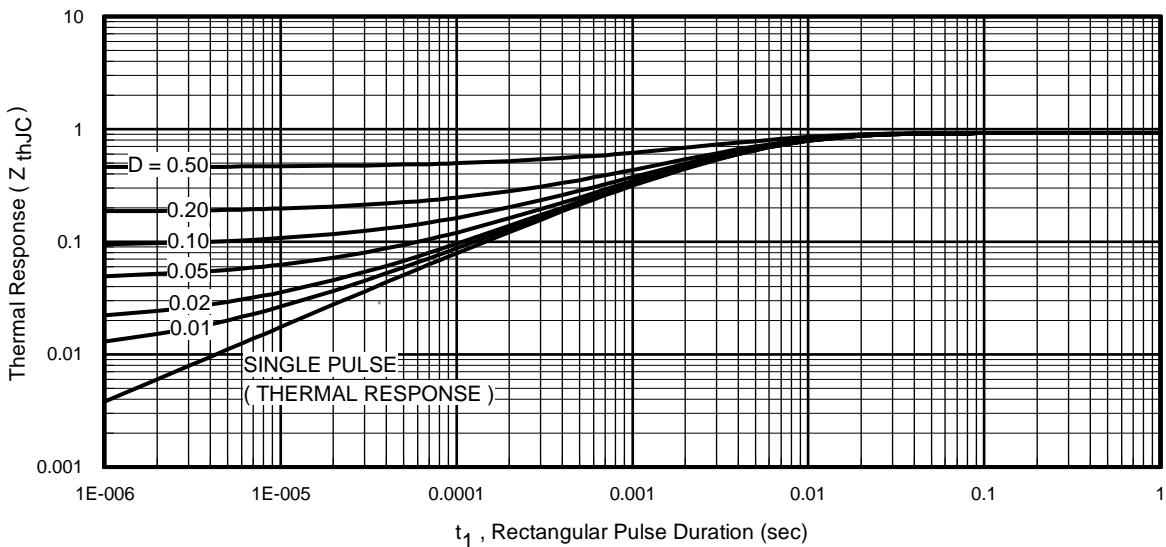
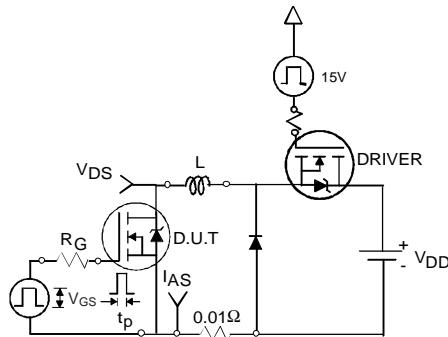

Fig 11. Maximum Effective Transient Thermal Impedance, Junction-to-Case
Fig 12a. Unclamped Inductive Test Circuit
- ① Repetitive rating; pulse width limited by max. junction temperature. (See fig. 11).
- ② Limited by $T_{J\text{max}}$, starting $T_J = 25^\circ\text{C}$, $L = 0.27\text{mH}$, $R_G = 25\Omega$, $I_{AS} = 35\text{A}$, $V_{GS} = 10\text{V}$. Part not recommended for use above this value.
- ③ $I_{SD} \leq 35\text{A}$, $di/dt \leq 380\text{A}/\mu\text{s}$, $V_{DD} \leq V_{(\text{BR})\text{DSS}}$, $T_J \leq 175^\circ\text{C}$.
- ④ Pulse width $\leq 1.0\text{ms}$; duty cycle $\leq 2\%$.
- ⑤ $C_{\text{oss eff.}}$ is a fixed capacitance that gives the same charging time as C_{oss} while V_{DS} is rising from 0 to 80% V_{DSS} .
- ⑥ Limited by $T_{J\text{max}}$, see Fig.12a, 12b, 15, 16 for typical repetitive avalanche performance.
- ⑦ This value determined from sample failure population. 100% tested to this value in production.
3. Equation below based on circuit and waveforms shown in Figures 12a, 12b.
$Z_{thJC}(D, t_{av})$ = Transient thermal resistance, see figure 11)